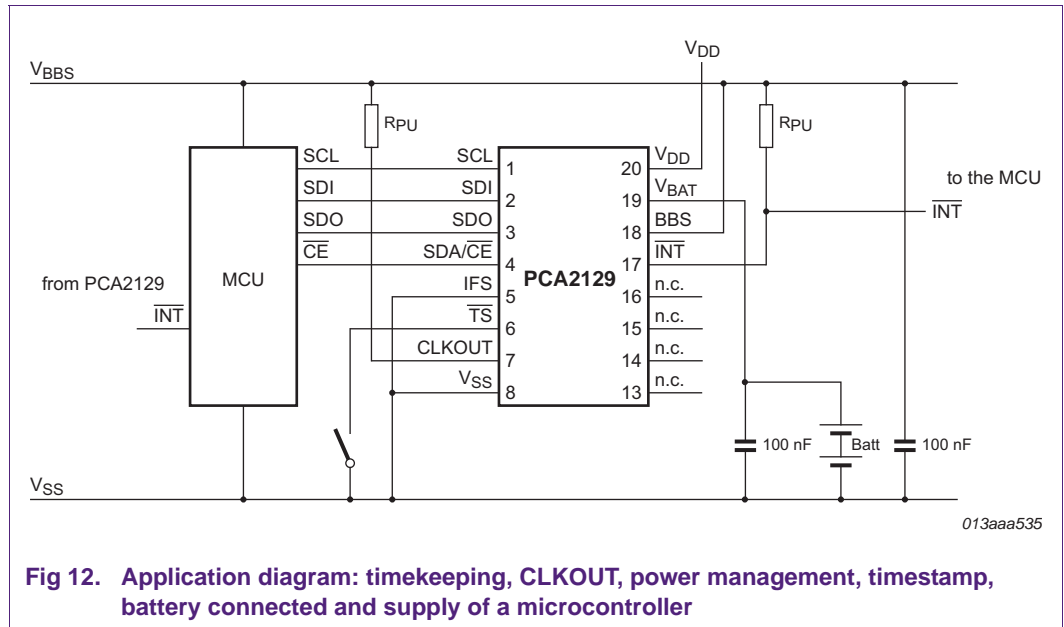

Fig 12. Application diagram: timekeeping, CLKOUT, power management, timestamp, battery connected and supply of a microcontroller
PCA2129 used for timekeeping, power management, CLKOUT with a battery connected and supplying a microcontroller (see Figure 12):
- BBS supplies a microcontroller (see Figure 12)